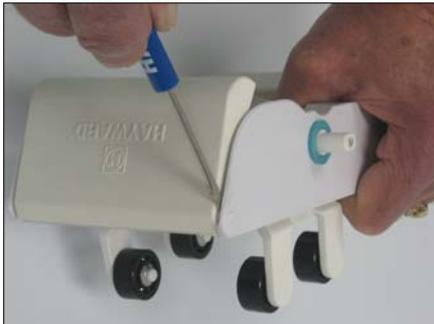

Figure 32
2. Remove the front and rear flaps from the lower body by inserting a small flathead screwdriver between the flap and body near the flaps pivot point (fig 32 & 33).